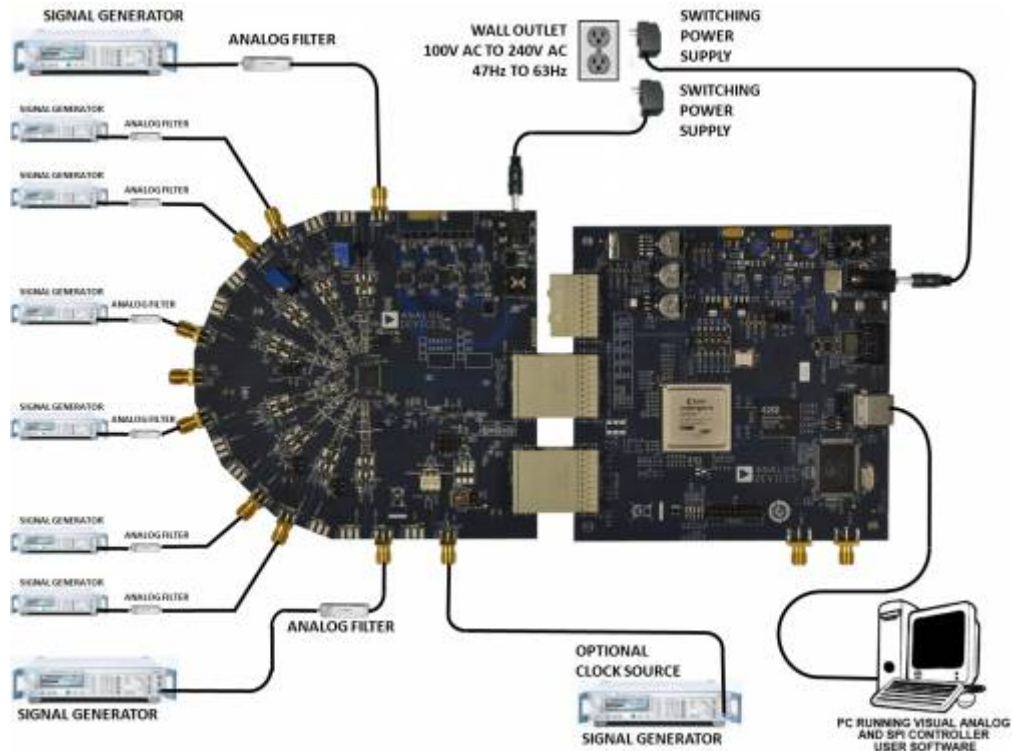

Figure 1. Evaluation Board Connection—AD9257-65EBZ or AD9637-80EBZ (on Left) and HSC-ADC-EVALCZ (on Right)
1. Connect the evaluation board to the data capture board, as shown in Figure 1.
The evaluation board provides the support circuitry required to operate the AD9257 and AD9637 in their various modes and configurations. Figure 1 shows the typical bench characterization setup used to evaluate AC performance. It is critical that the signal sources used for the analog input and clock have very low phase noise (ideally ~100 fs rms jitter) to realize the optimum performance of the signal chain. Proper filtering of the analog input signal to remove harmonics and lower the integrated or broadband noise at the input is necessary to achieve the specified noise performance.